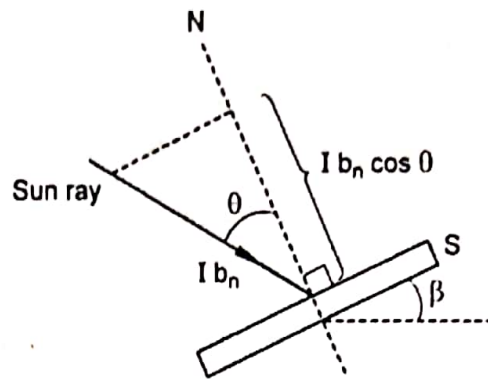

Figure 1.17
Angle of incidence is the angle between the incident beam (I_{bn}) and normal (N) to surface (S). It is shown in Figure 1.17.